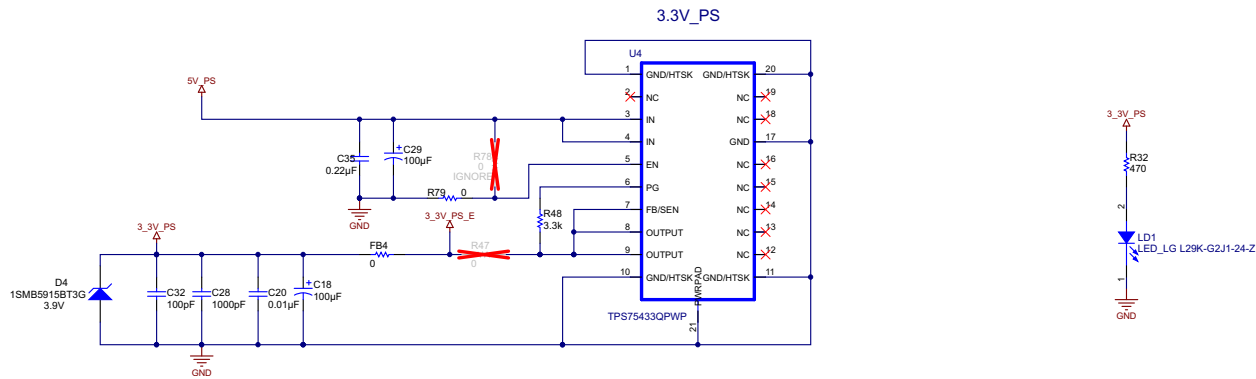
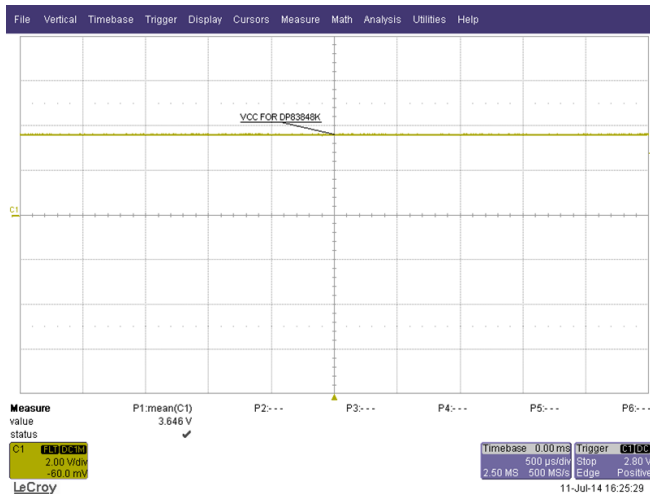
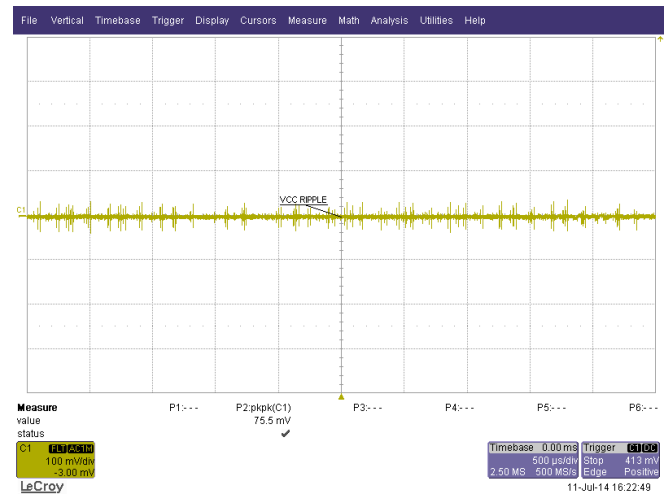

Figure 12. 3.3-V Power Supply Connection
Figure 24. 3.3V\_PS Signal
Figure 25. Ripple on 3.3V\_PS
3. By using 3.3 V from the controller board as shown in Figure 12
The power supply signal on the 3.3V\_PS signal (in Figure 12) is captured along with the ripple on the same. Figure 24 and Figure 25 show the signals.